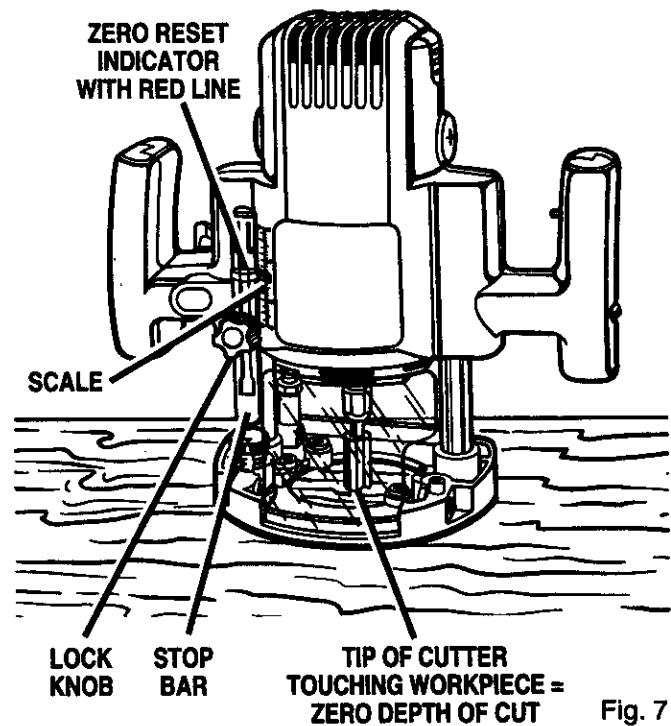

Fig. 7
- Lower router until tip of cutter barely touches flat surface. See Figure 7.
- Next, lift stop bar to obtain desired depth of cut. *See Figure 7.* For example, if setting 1/8 in. depth of cut, the zero-reset indicator will move 1/8 in. from the 1 in. reference point.
- Grasp handles and lower router until stop bar contacts depth stop. Release plunge lock release, locking cutter at desired depth of cut. *See Figure 7.*